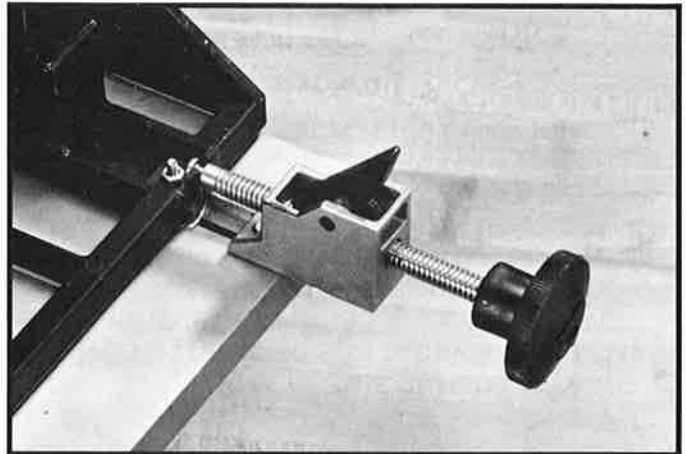

Fig. 7
2. Fig. 7, illustrates the micro-set table adjuster correctly assembled to the table and fence.